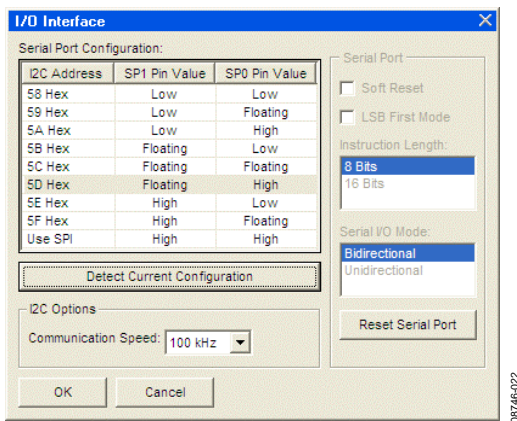

Figure 28. Evaluation Software Serial Port Configuration
5. Repeat Step 4 for both the SCLK_SCL pin and GND pin of the AD9520 evaluation board to the SCL pin and ground pin of the target board, respectively. On the evaluation software, select **Configure Serial Port** from the I/O menu. This window is shown in Figure 28.